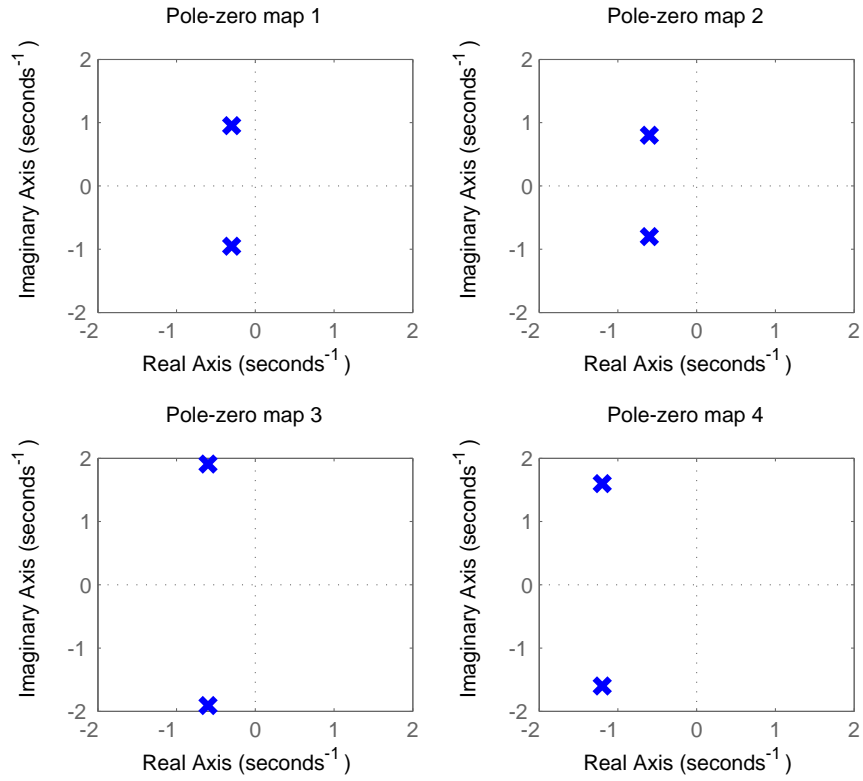
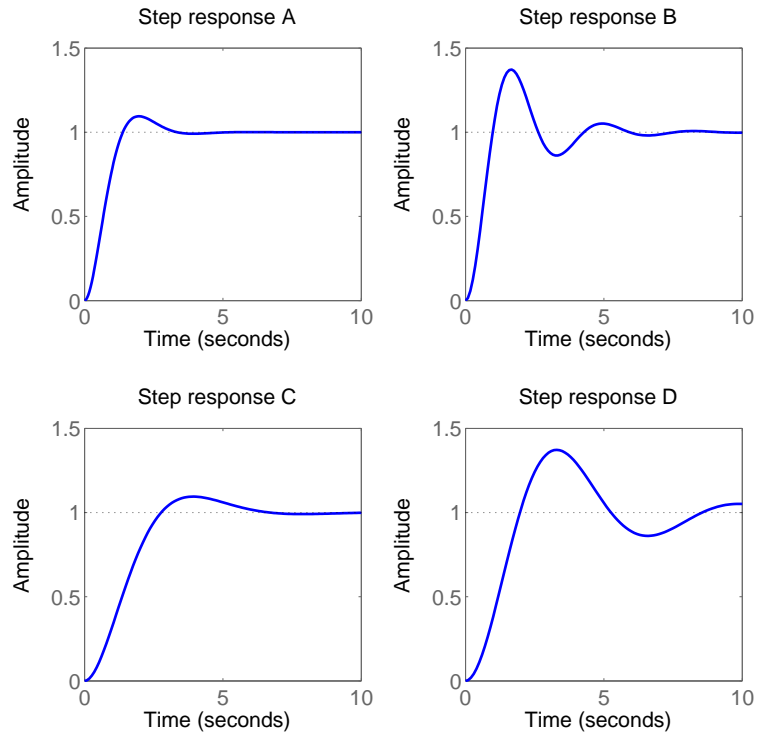

Figure 2 Pole-zero maps for Problem 3
Figure 3 Step responses for Problem 3
3. Figure 2 shows the pole-zero maps of four systems, and Figure 3 shows the step responses of the same systems, but not necessarily in the same order. The transfer function of each system can be written in the form